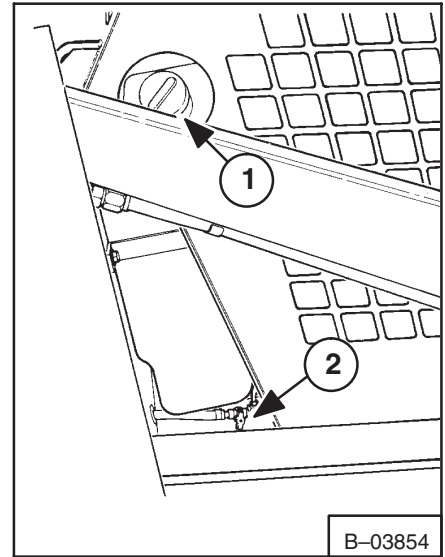

Fig. 1-17 Fuel Filling Location (641,643)
Remove the filler cap to service the fuel tank as follows (Fig. 1-17 & 1-18, Items 1):
5. Tighten the cap on the fuel tank (Fig. 1-17 & 1-18, Items 1).
1. Close the fuel line shut off valve (Fig. 1-17, Item 2).